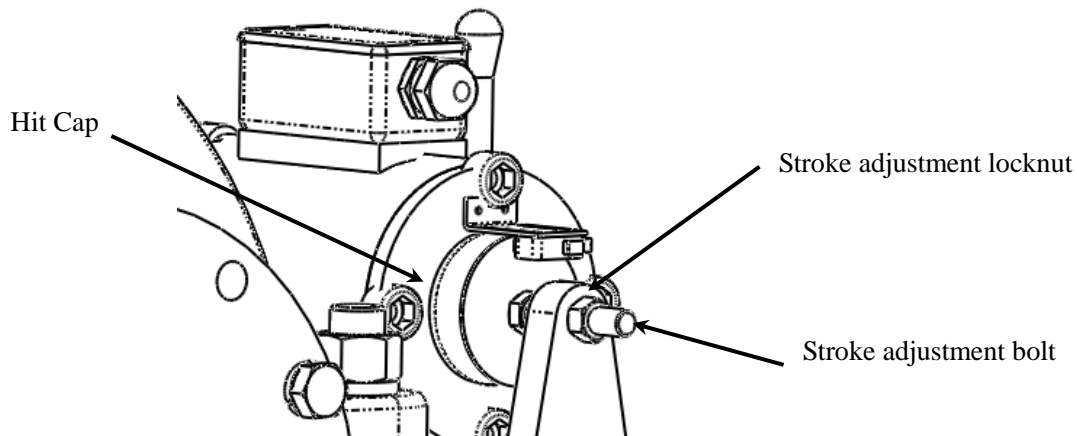

Figure 12 Brake Stroke Adjustment
1. Loosen the Stroke adjustment locknut, verify that the Hit Cap and the Stroke Adjustment Bolt just contact when the brake's power is on, and screw the Stroke Adjustment Bolt into the direction of the brake solenoid to 1.6~2.0mm (0.063"~0.079"). See Figure 12.